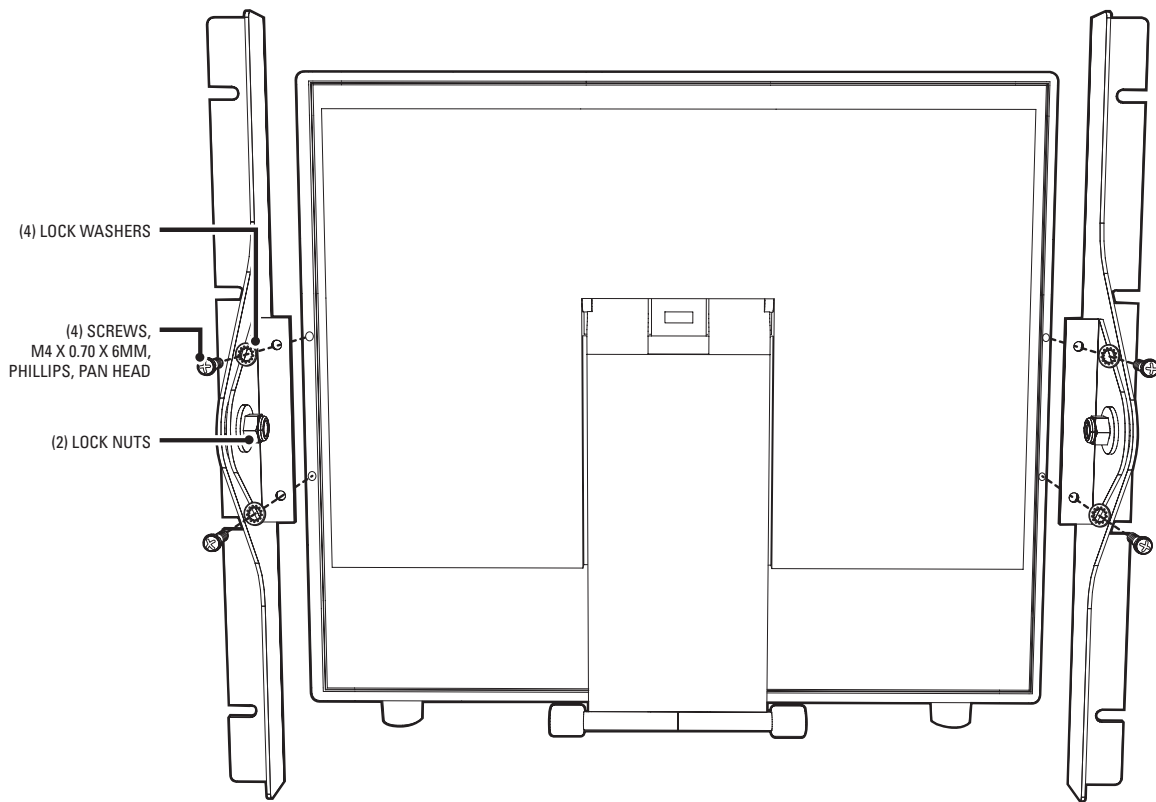

Figure 1. Attaching Rack Mounts to Monitor
1. Tighten the lock nuts (refer to Figure 1) so they are loose enough to allow the brackets to move but tight enough to hold them in place.
2. Attach the rack mounts to the monitor using the four stainless steel, pan head screws and lock washers. Refer to Figure 1.